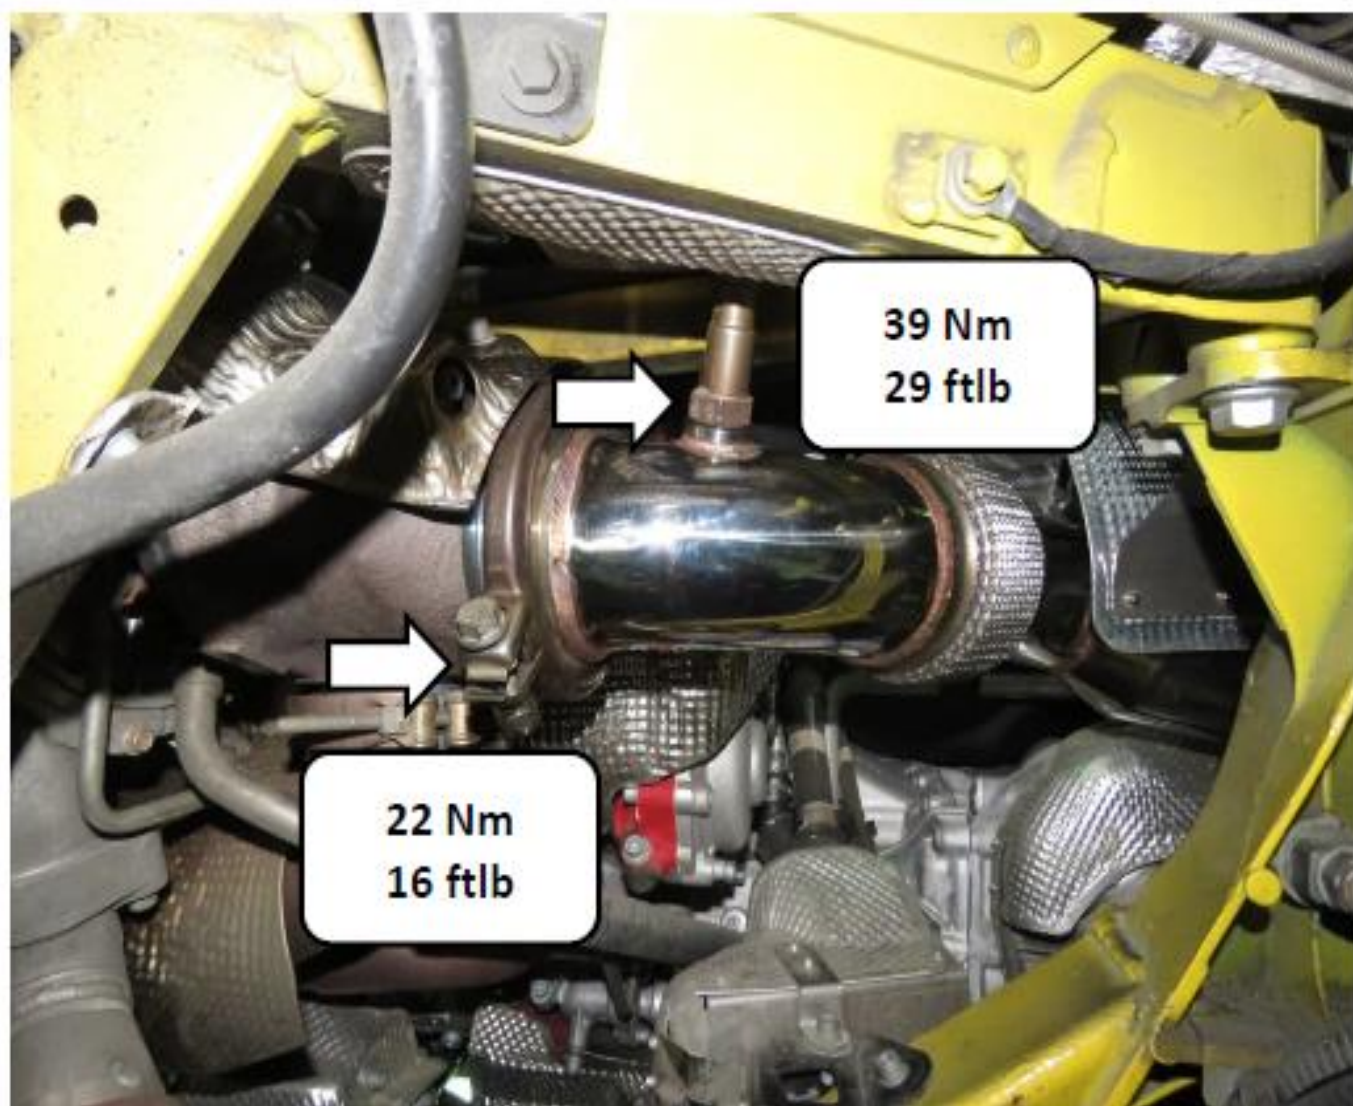

figure 19
3. Install the catalyst collar and oxygen sensor to the positioning (Figure 19)